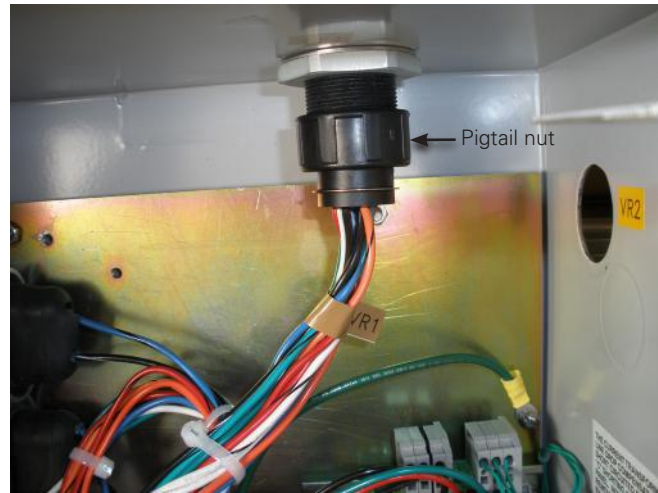

Figure 7. Installed control cable receptacle and connector assembly.
- Push the male connector as far as possible onto the control cable connector while tightening the pigtail nut. Repeat the process of pushing on the harness connector and tightening the nut until the connection is fully tightened. A loose nut could result in cable corrosion. See Figure 7.